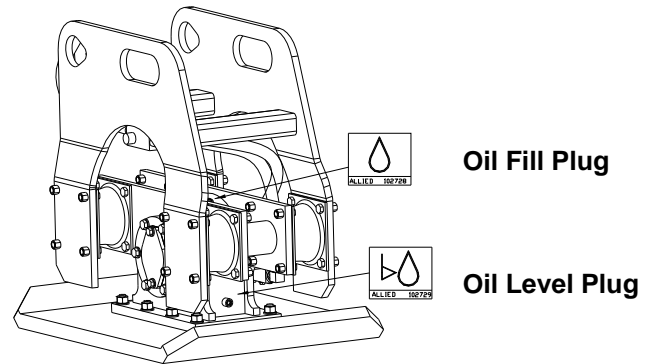

Fig. 9-1 Location of Plugs for Oil Fill & Level
1. Position the Ho-Pac on a level surface with easy access to both the oil fill and oil level plugs. Refer to Figure 9-1.